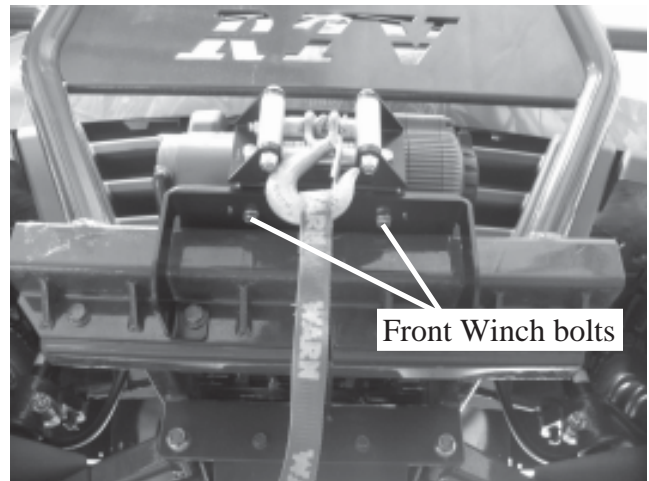

Figure 8
- Use the two 3/8" bolts from the mounting kit to fasten the front of the winch, Figure 8. Tighten the 3/8" bolts and the 10mm bolts at this time.